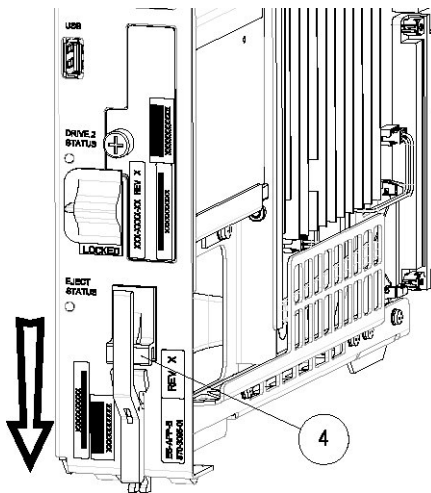

Figure 50: E5-APP-B Card Inject Hardware Switch, LOCKED
4. Slide the E5-APP-B Ejector switch (4) down to the LOCKED position (see Figure 50: E5-APP-B Card Inject Hardware Switch, LOCKED).